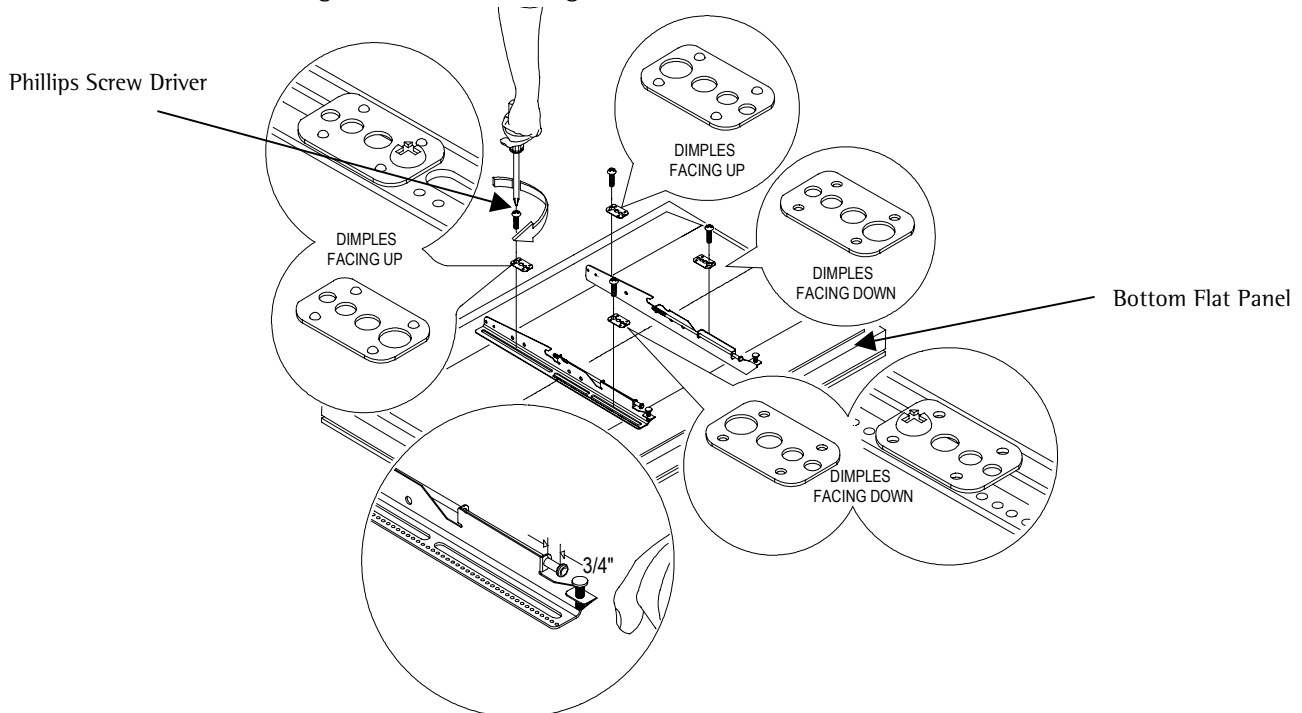

Figure 8. Griplate™ Attachment
**NOTE:** The dimples of the top plates have to be facing up and the bottom dimples must be facing down. Use (1) Griplate™ per mounting point (Figure 8).